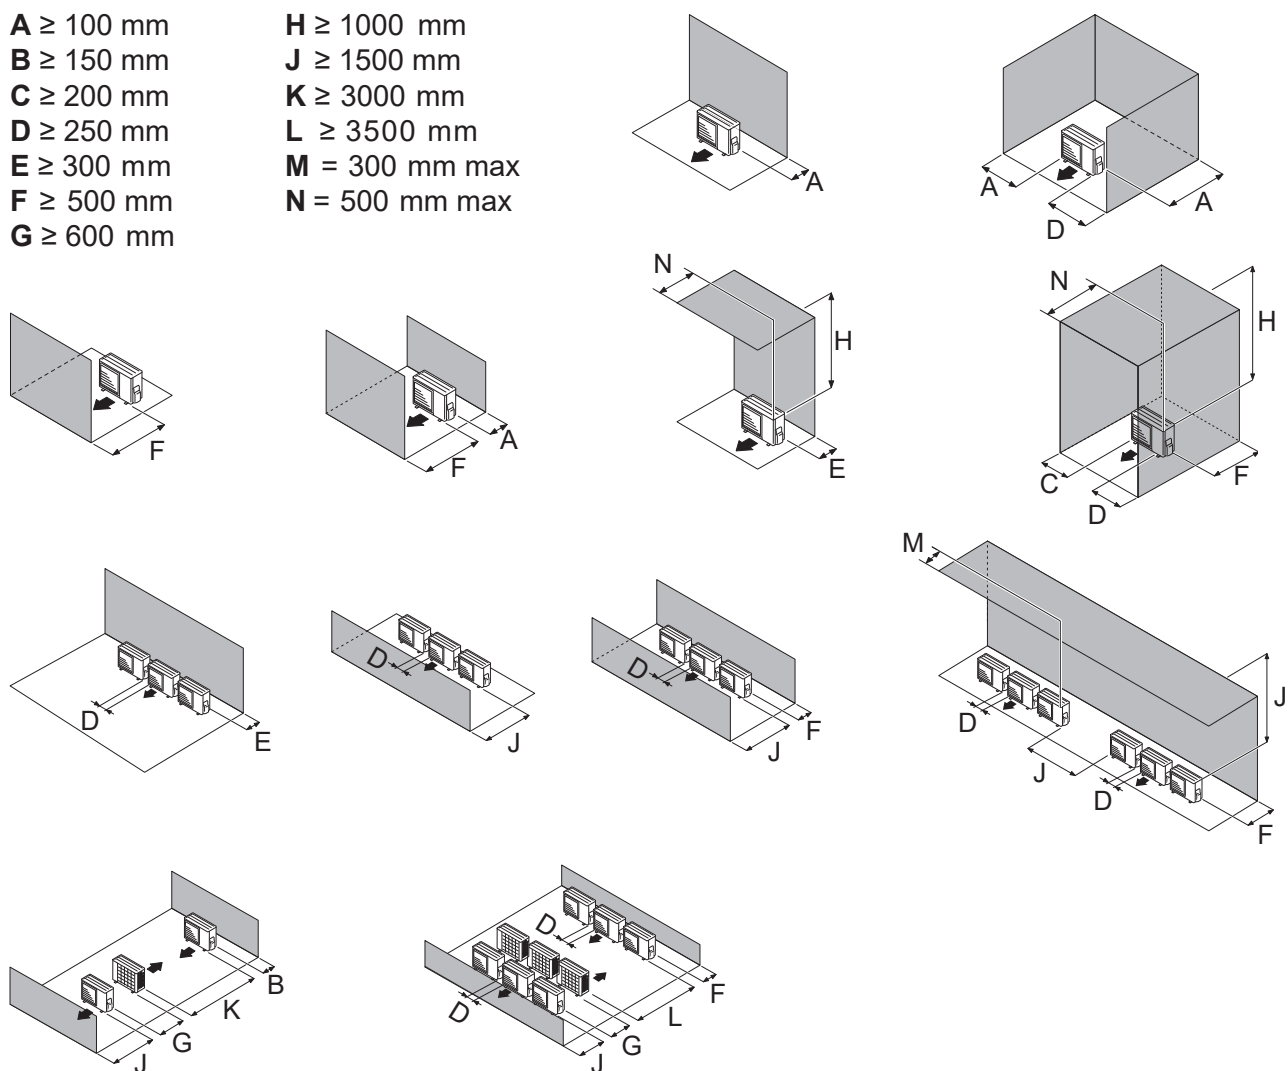

fig. 17 - Minimum installation clearances around the outdoor unit (model 10)
- The unit must be easily accessible for future installation and maintenance work (*fig. 16 and fig. 17, page 18*).
- Nothing should obstruct the air circulation through the evaporator and out from the fan (*fig. 16 and fig. 17, page 18*).